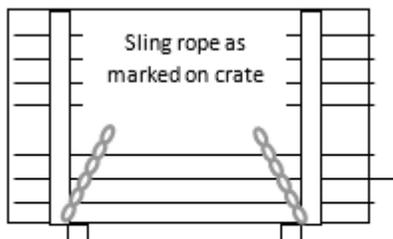

FIGURE 3.1
3.1.1 Fastening of ropes to sling crates Points for fastening sling ropes to closed crates are marked on the side of the crate. Since the center of gravity cannot be seen on closed crates. Sling rope fastening must always be done at the marked locations. See Figures 3.1 and 3.2. Crates can be lifted and transported with a forklift.
- Arrange slings or other hoisting devices to maintain a level lift, see Figures 3.1 and 3.2.